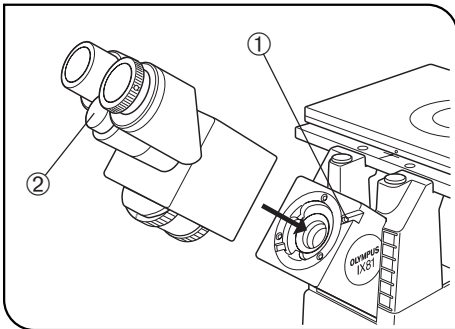

Fig. 79
(Figs. 79 to 82)
(Figs. 79 & 80)
1. Using the Allen screwdriver, loosen the observation tube clamping screw ① on the observation tube mount. (Fig. 79)
2. Attach the circular dovetail mount of the observation tube into the observation tube mount, placing the observation tube so that the interpupillary distance scale numbers ② are seen right side up. Then tighten the clamping screw to clamp the observation tube.